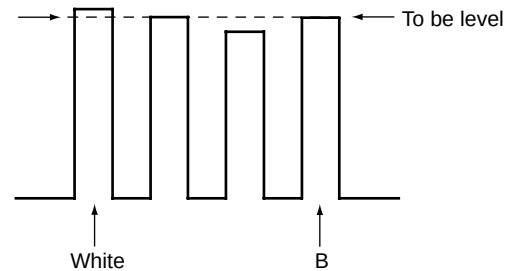

Fig. 3-12
5. Adjust the SUB PHASE so that all outputs will be the same. (Fig. 3-12)